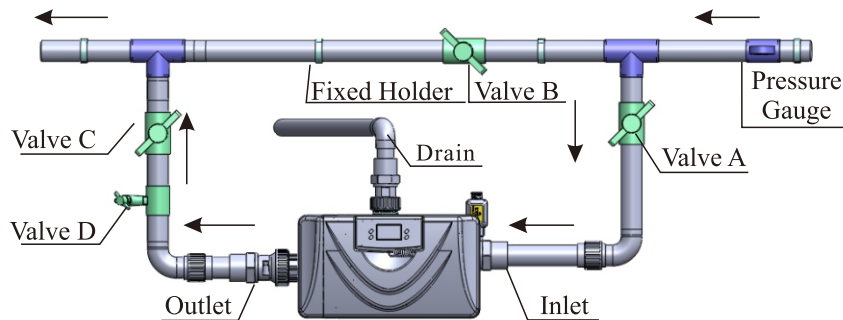

Figure 1-3
③ Pipeline connection
- a. As Figure 1-3 shows, install a pressure gauge in water inlet.
- b. Install valves A.B.C.D in inlet, outlet and pipeline as showed in Figure 1-3. Valve D is a sampling valve.